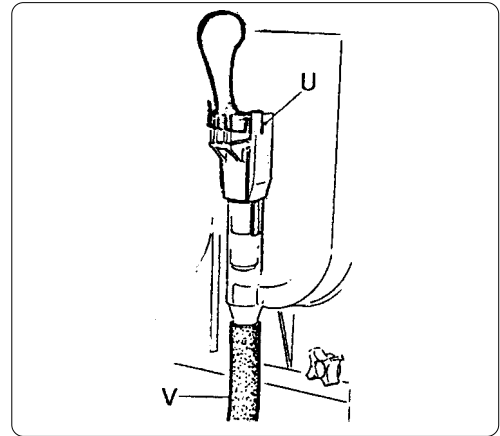

Fig. 18
e) Lift the unit and remove it from its seating (as shown for the other tap) without removing the tap (U) completely. Connect a discharge hose (V) long enough to reach a discharge point to the outlet tap (fig.18).